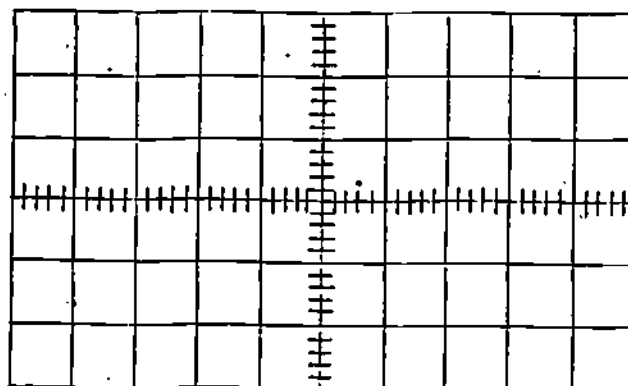

Figure 1
12. Connect the remaining 10X probe to Pin #4 of the PCB which corresponds to the anode of Q3. Observe and draw both waveforms on the graticule in Figure 1. The step at the trailing edge is the firing point of the SCR's.